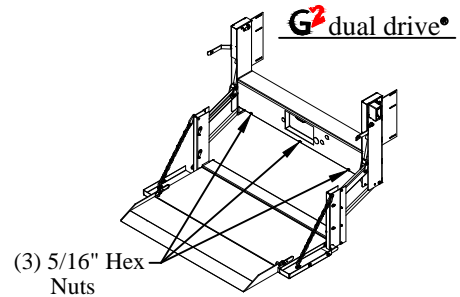

Figure 12: Box cover locations.
5. **Remove** the box cover by removing the 5/16" hex head bolts or nuts (Figure 12).